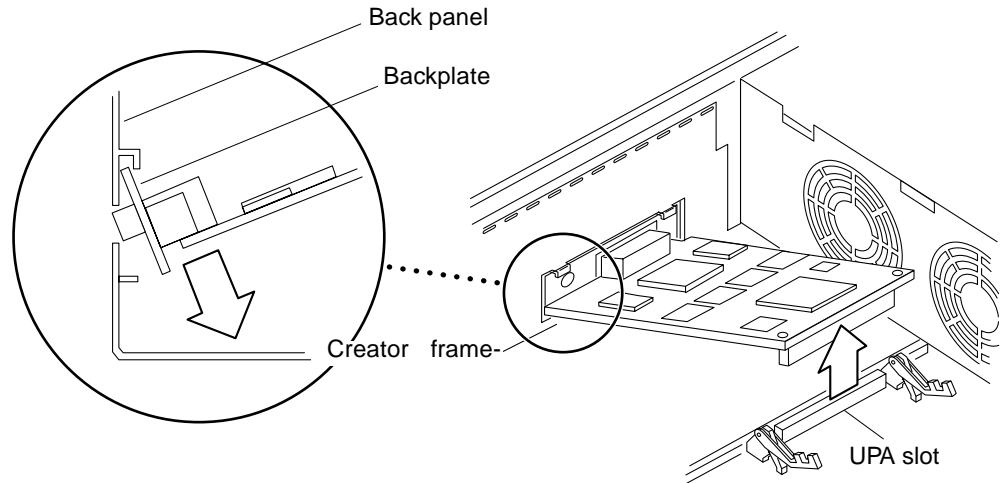

Figure 2-5 Removing the Creator Card
3. Grasp the Creator card at both corners, and gently pull both corners up to disconnect the Creator card from the socket (Figure 2-5).